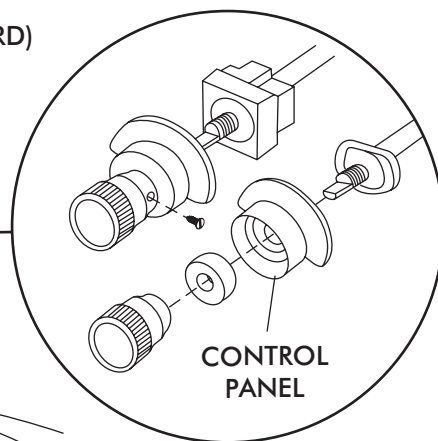

FIGURE 2a
- ☐ REMOVE OEM CONTROL KNOBS AND BEZELS (RETAIN) SEE FIGURE 2a.